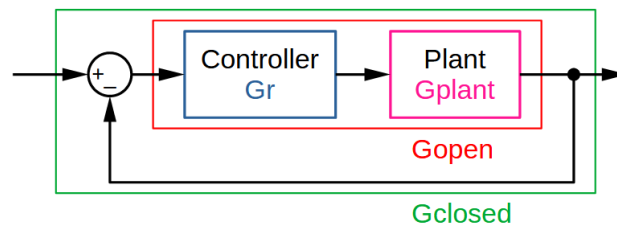

Figure 36: Signal colors according to transfer functions in the control loop.
- ♦ **Bode:** The amplitude response and the phase response of the axis are plotted. The signal colors match to transfer functions as following (see also Figure 36).